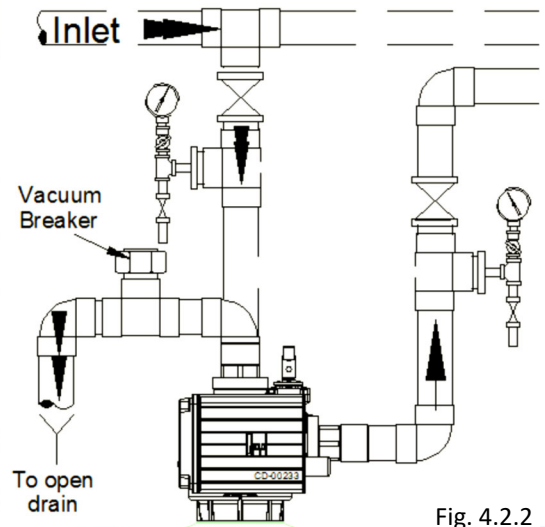

Fig. 4.2.2
-The drain lines should be as short as possible and piped to an open drain. Access to the drain and air gap are necessary for visual inspection and testing of the drain water. The air gap prevents sewage backing up into the unit. If the drain travels a long distance or through a substantial elevation change, an additional vacuum breaker is recommended on the drain line (see fig 4.2.2). The drain line size must be sized to easily handle the maximum regeneration flow rate with minimal pressure drop (2-4 psi). Minimum recommended drain pipe size is 2".